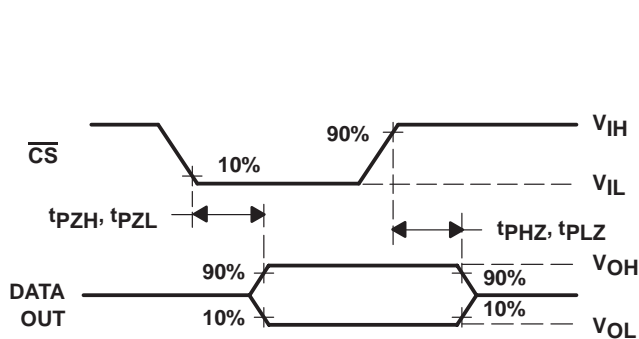

Figure 8. DATA OUT to Hi-Z Voltage Waveforms
- 10. I/O CLK period = 1/(I/O CLK frequency) (see Figure 8).